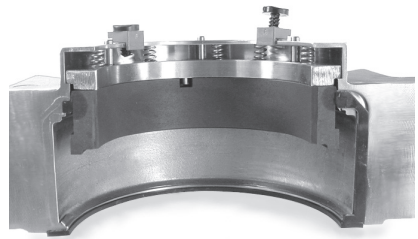

Figure 30
- 11.2 Set one centering device on the gland and press the centering device fastener through the centering device and into the locating hole in the gland. The locating holes are located 45 degrees from the split joints and are even with the bolt slots. See Figure 30.